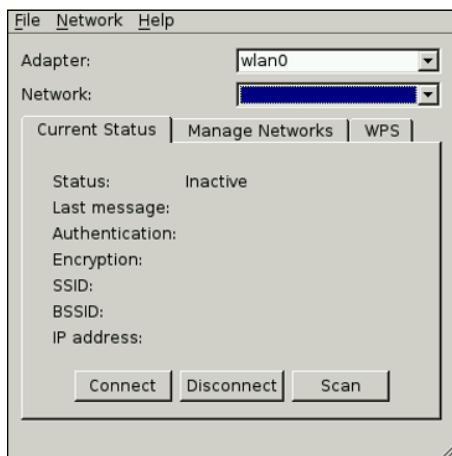

FIGURE 7-28: The Network Config window
- Assuming that one of the listed APs is your own, double-click its line in the Scan window. The NetworkConfig window opens (see Figure 7-28). If you don't see your AP listed, your Raspberry Pi may be too far away, or there may be some configuration conflict.